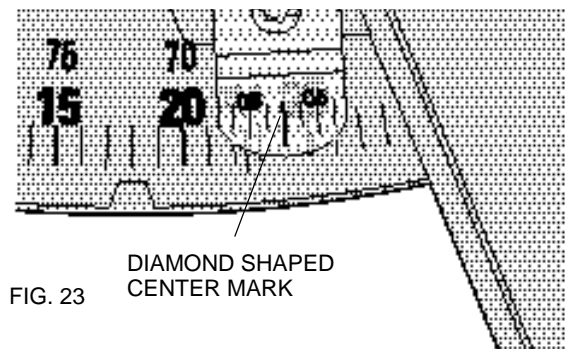
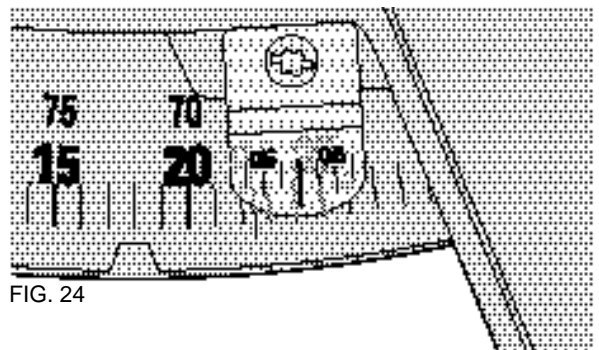

FIG. 23
FIG. 24
2. Set the miter angle to the nearest whole degree desired by aligning the diamond-shaped center mark in the vernier scale, shown in Figure 23, with the whole degree number etched in the miter scale. Examine Figure 24 closely; the setting shown is 24 degrees right miter.
mark on the miter scale. In our example, the closest degree mark on the miter scale happens to be 25 degrees. Figure 24 shows a setting of 24-1/4 degrees right miter.